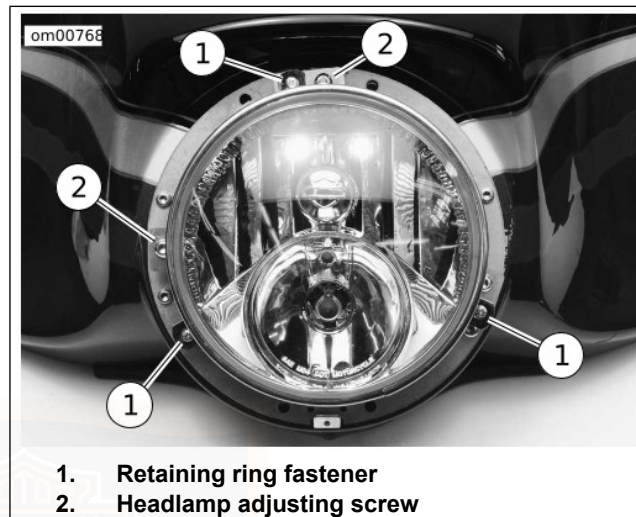

Figure 56. Headlamp Retaining Ring: FLHTCUSE
2. See Figure 56. Remove the 3 screws and the reflector/lens retaining ring (1).